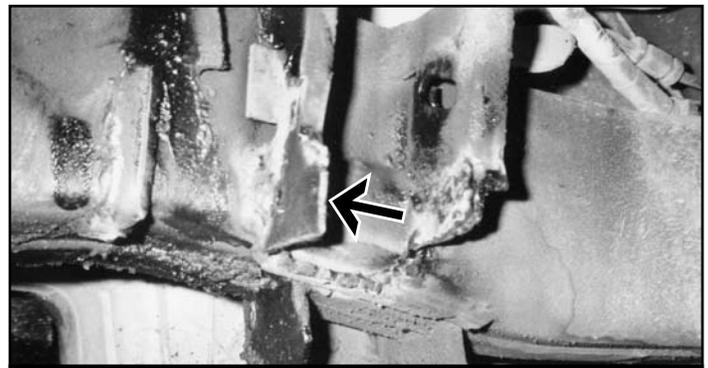

FIG. 12-View from drivers side
34. On the inside of rear upper A-arm pocket, there is a plate welded in place that protrudes into the pocket. This plate must be removed to create a flat internal surface. (Fig. 12)